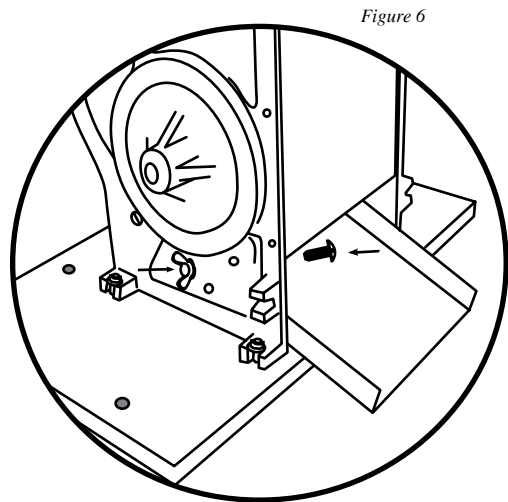

Figure 6
6. Line up Hole 1 of the **Chute** to Hole 1 of the **Apple Crusher**. Secure the **Chute** to the **Apple Crusher Main Body** using a **Machine Screw** and **Wing Nut**. Repeat on the other side of the **Chute**. Tighten both **Wing Nuts** by hand (Figure 6).